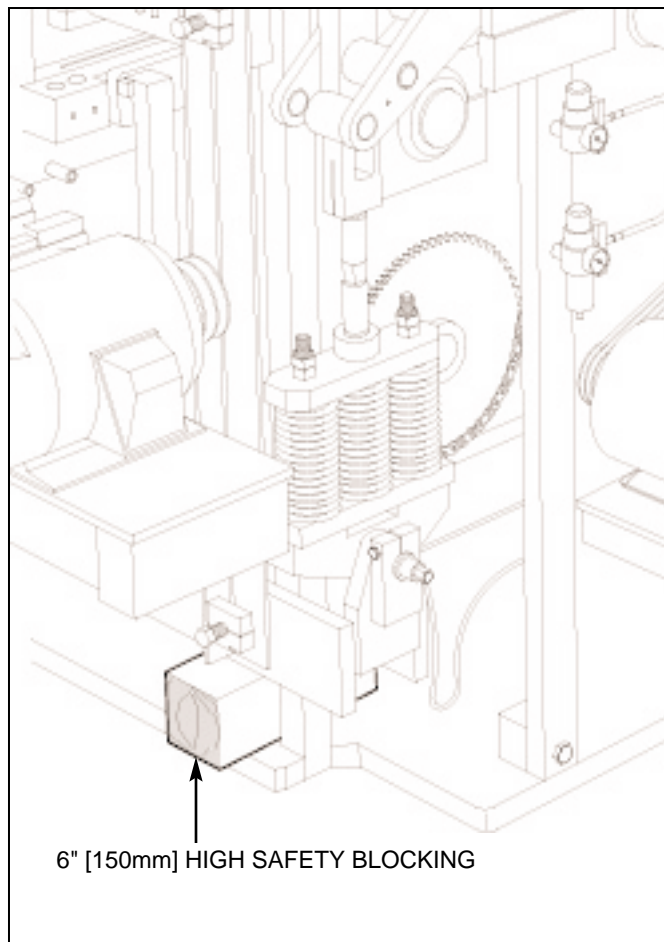

Figure 4.5 PLACING SAFETY BLOCKING.
- 4.1.10 Place safety blocking of **6" [150mm]** high under the pallet receiver frame (see figure 4.5).